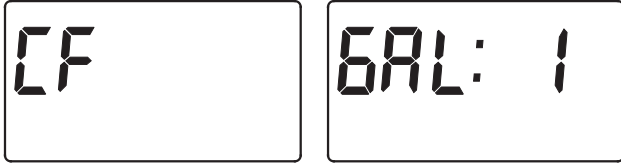

FIG. 26
4. CHEMICAL FEEDER TRIP VOLUME: If you have set the auxiliary output control to CF (Chemical Feeder), you will need to set the volume of water which must flow past the turbine before the auxiliary output is turned on. With the alternating screens in Fig. 26 shown, use the ↑ UP or ↓ DOWN buttons to set the trip volume, in gallons.